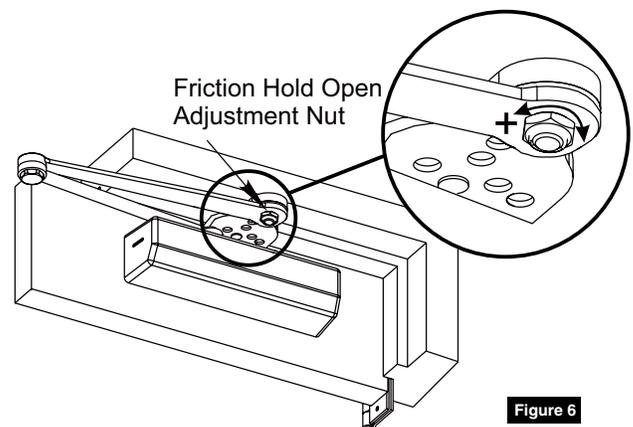

Figure 6
6. Adjust Hold Open Position. (Figure 6)